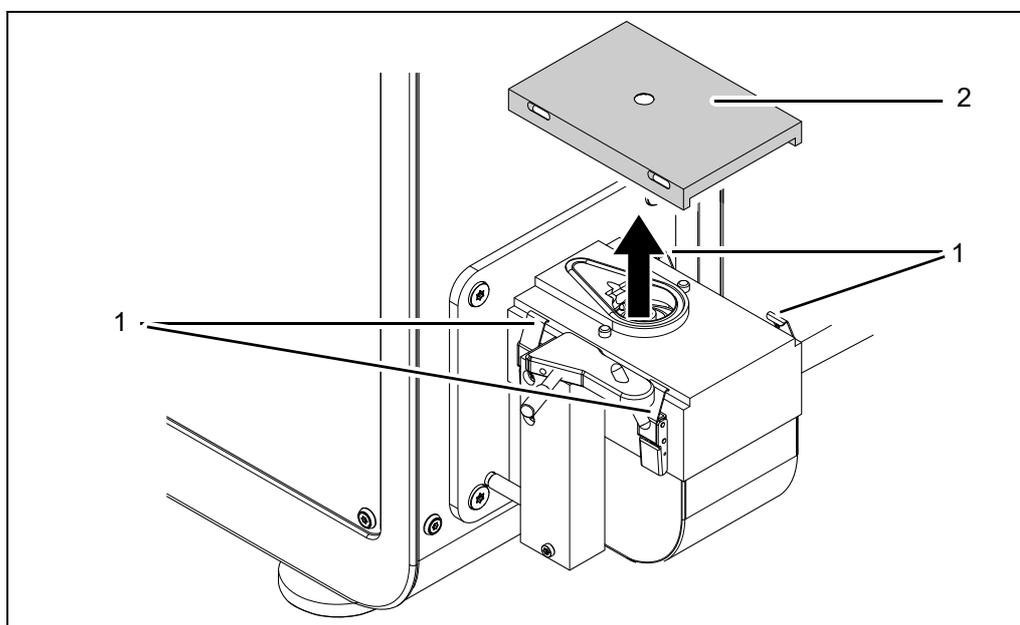

Fig. 9-1 Opening the spark stand plate
2. Loosen the 4 holding clamps (1, fig. 9-1) on the spark stand plate (2).